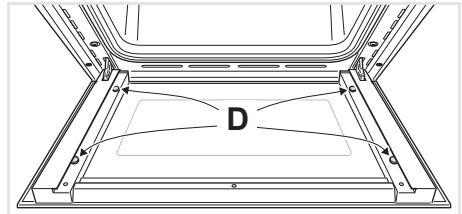

Fig. 8.11c
IMPORTANT: It is advisable, while removing the glass, to keep pressed in position the four rubber pads “D” (fig. 8.11c), by a finger, to avoid breakage or slippage of the rubber pads themselves.
1. Make sure the door is locked open (see fig. 8.11c).
- Check that the four rubber pads are in place ("D" in fig.8.11c).